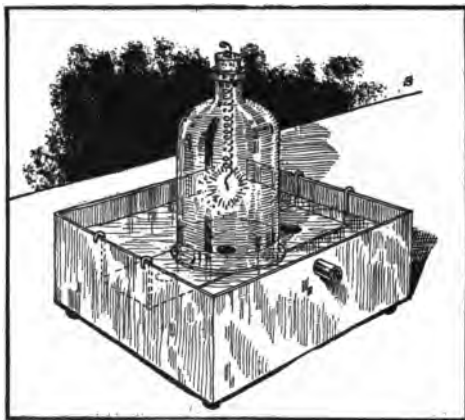

FIG. 32. Even iron will burn in a jar of oxygen.
**Exercise 5.** Take a piece of iron picture-wire.1 It should be long enough to reach to the bottom of the jar containing oxygen. Heat one end of it by placing it in a flame for an instant, and then dip it into some sulfur. The sulfur will adhere to the iron and by burning will raise the temperature of the iron to what is known as its "kindling point." Now quickly introduce the hot iron into a jar of oxygen. It will burn brilliantly, throwing off bright, glowing sparks, and the iron will gradually be consumed (Fig. 32). What kind of substance is formed when the iron is burned? Have you seen this substance before?